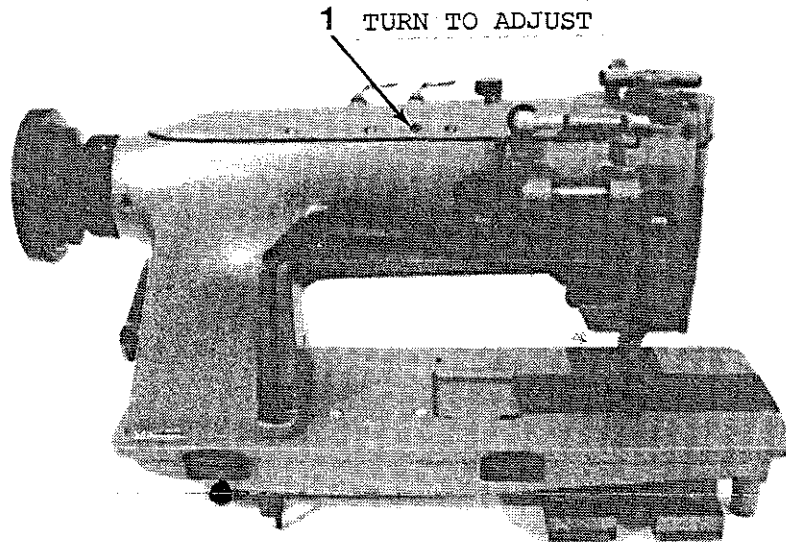

FIG. 17
PRESSURE ON MATERIAL (Fig. 17)
Pressure is regulated by screw (1) shown in Fig. 17 at rear of machine arm. Turn screw clockwise to increase pressure or counter-clockwise to decrease pressure.
ADJUSTING THE HEIGHT OF THE PRESSER FEET (Fig. 17,33,34)
Loosen the screw (1, Fig. 17), raise the presser bar lifter and loosen the set screw (1, Fig. 34)